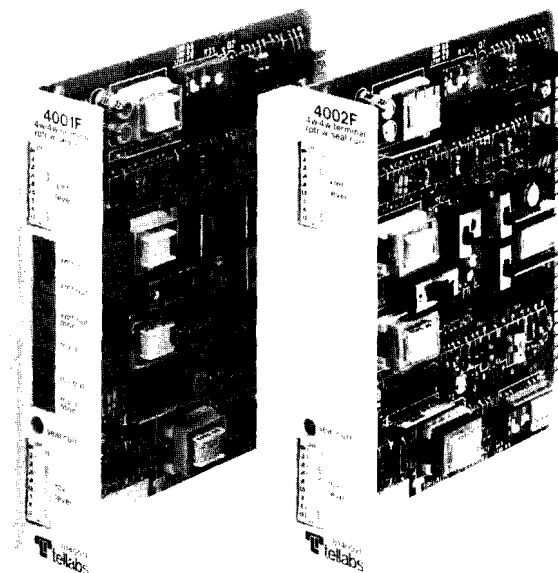

figure 1. 4001F and 4002F 4Wire-to-4Wire Terminal Repeaters with Sealing Current
1.01 The 4001F and 4002F 4Wire-to-4Wire Terminal Repeater modules with Sealing Current (figure 1) provide prescription level control (gain or loss) and impedance matching in both the transmit and receive channel of a 4wire voice-frequency transmission facility. Both modules also provide, in the receive channel only, active prescription amplitude equalization equivalent to that provided by the Western Electric 309B Prescription Equalizer. Each module can be switch-optional to supply 20mA of sealing current from a source internal to the module, to accommodate externally generated sealing current, or to derive normal simplex leads at the facility-side ports. Simplex-lead routing and polarity are also controlled by switch options on each module. The 4001F and 4002F are component modules of the Tellabs 246 Resistive Data Bridge System and are identical in all respects but one: the 4001F contains front-panel bantam-type test jacks while the 4002F does not.